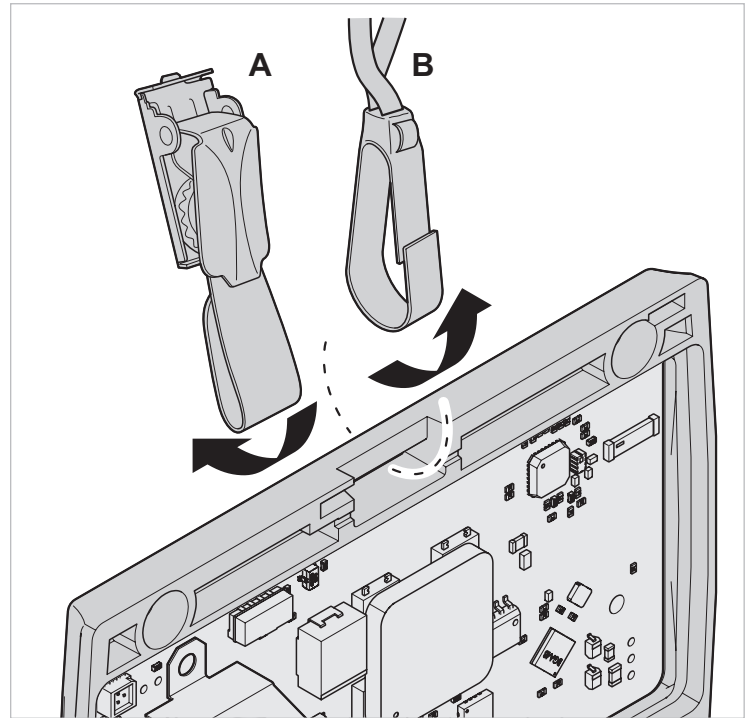
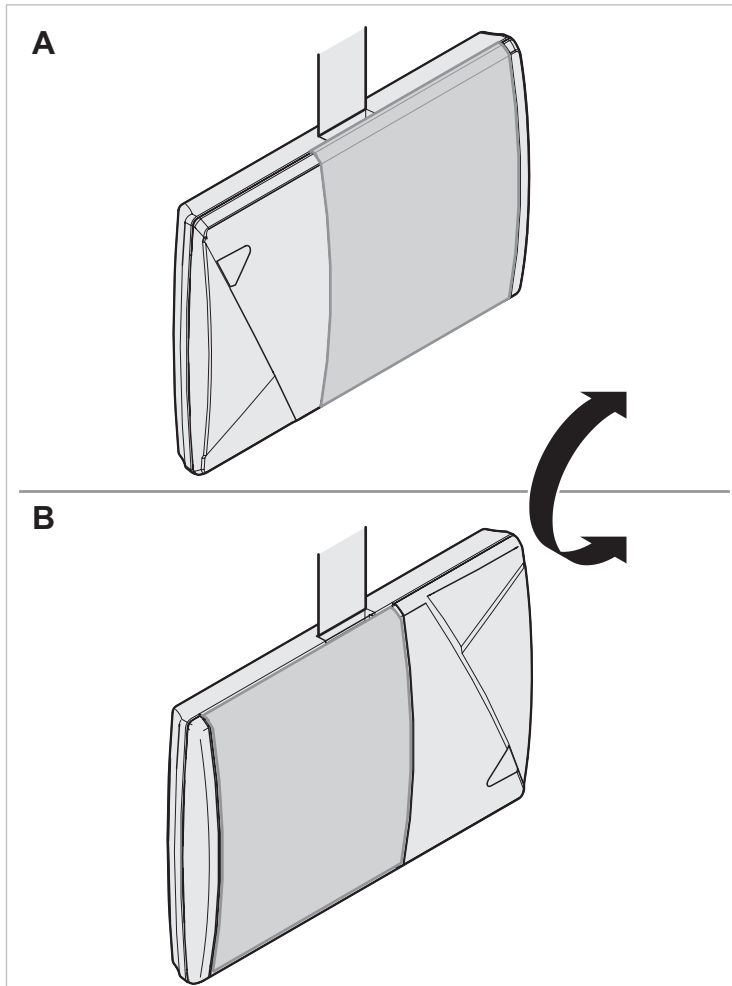

Fig. 4 Mounting the badge attachment
Fig. 5 Mounting of the attachment for right-handed person/ left-handed person
3. Place the selected attachment in the slot on the edge of the badge (Fig. 4), adapted for right and left-handed people (Fig. 5).
- For a right-handed person (A, Fig. 5), mount the attachment on the upper edge of the badge (next to the LED).
- For a Left-handed person (B, Fig. 5): Attach to the lower edge of the badge. To do this, turn the badge over.